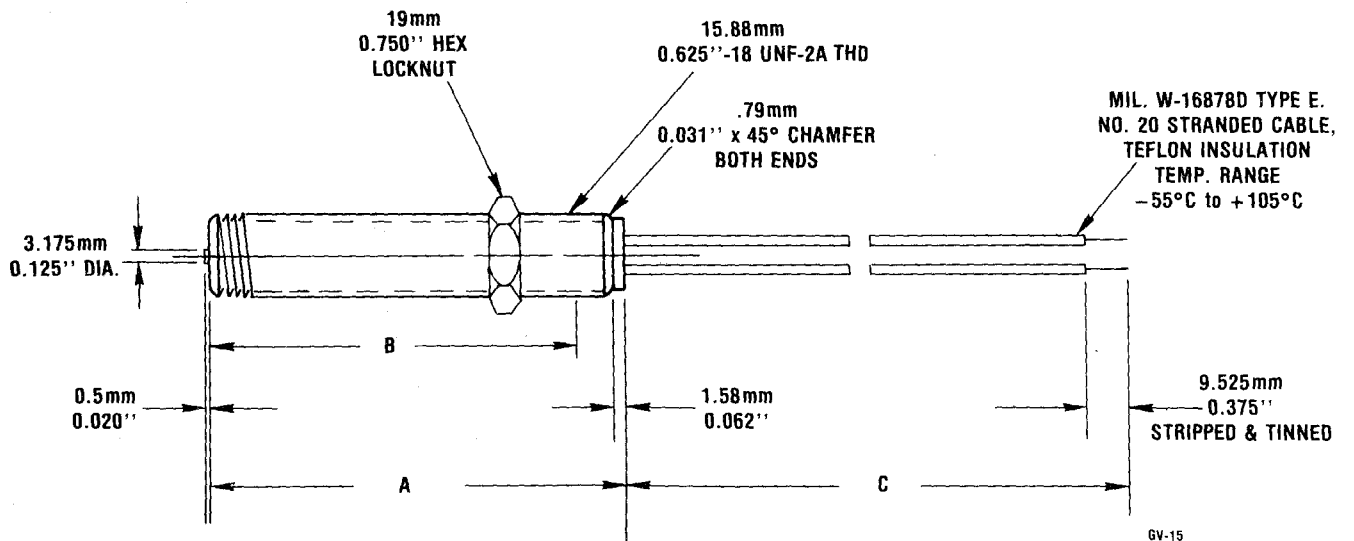

Figure 4. Unshielded magnetic speed sensor dimensions
- Dimensions (Unshielded) See Figure 4 and Table A